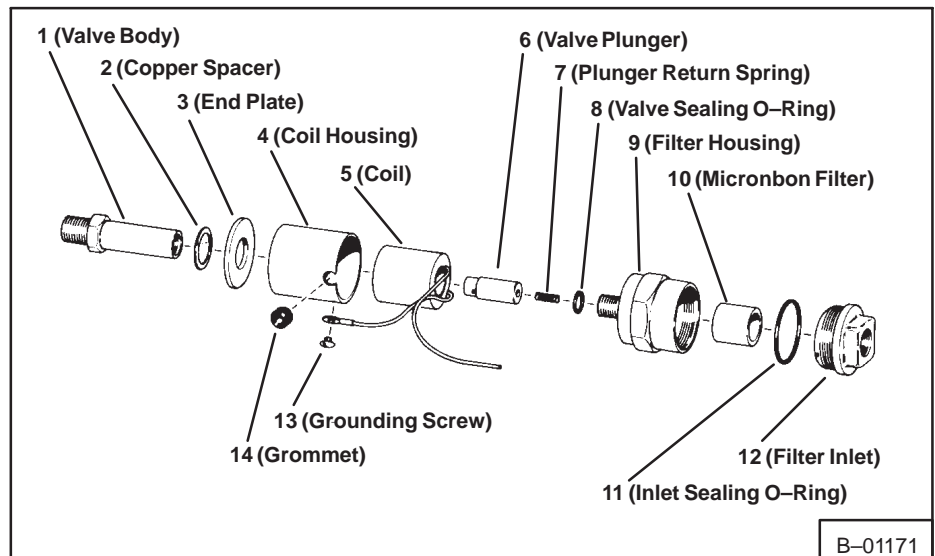

Fig. 79 LP Fuel Filter Lock
3. Remove the solenoid by clamping the filter housing (Fig. 79, Item 9) in a vise and carefully loosening the 5/8 inch hex brass body (Item 1). Carefully remove the solenoid section, including all items 1 through 7, 13 and 14.